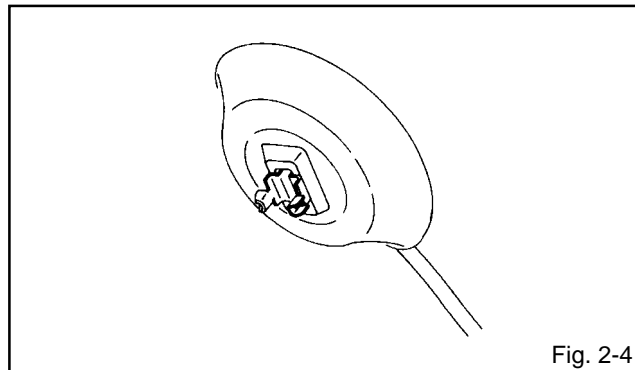

Fig. 2-4
3. Turn over the Rubber Cap. (Refer to Fig. 2-4.)